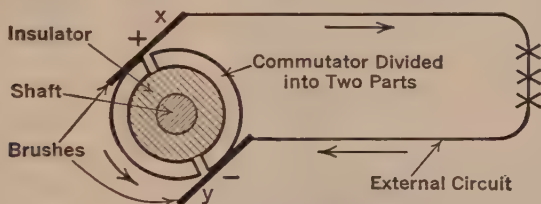

FIGURE 175. — A COMMUTATOR.
tator is used to change the alternating current in the armature to a direct current in the external circuit. Figure 175 shows how an alternating current (A. C.) is changed to a direct current (D. C.)
- C. Note the electromagnet on a pivot between the permanent poles of the field magnet. The wire coil is wound from end to end and the two free ends are connected with the two halves of a split brass ring or commutator (Fig. 175). When current is sent